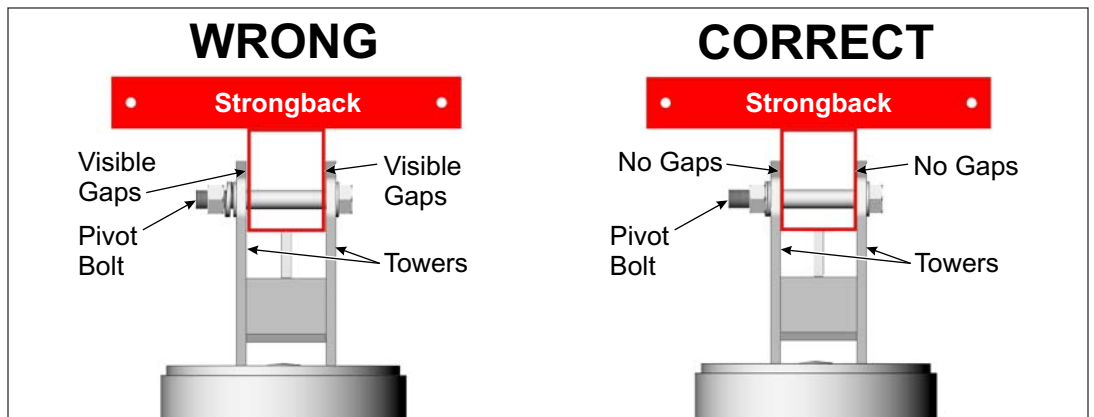

Figure 2-4: Tighten and Torque the Pivot Bolt
G. Return and tighten the Pivot Bolt. The Pivot Bolt cannot be left loose - the Mounting Sleeve Vertical Towers must be firmly clamped to the sides of the Strongback eliminating any gaps between the Vertical Towers and the Strongback. **Torque to 200-250 ft.-lbs.** (See Figure 2-4)